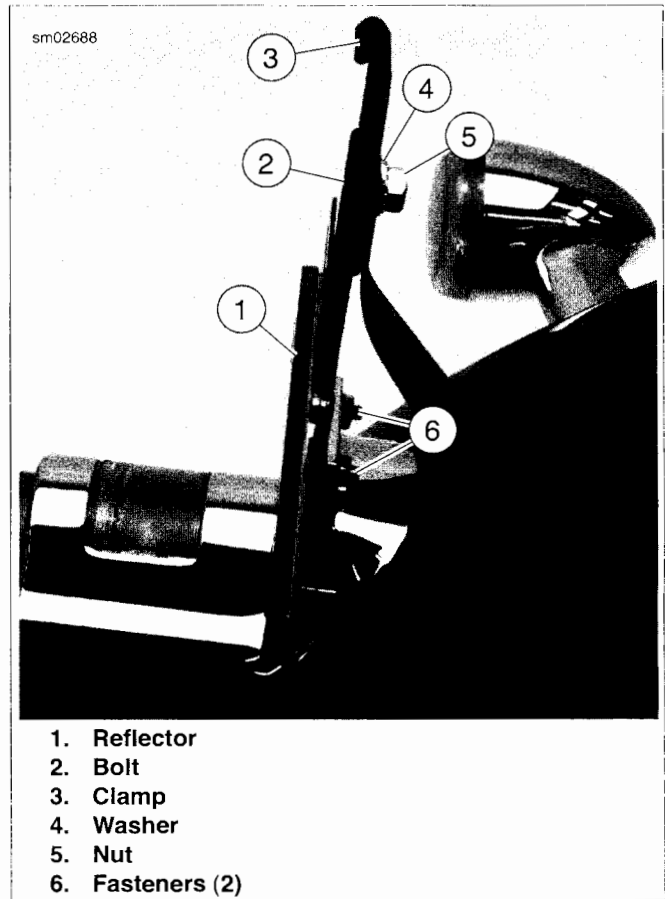

Figure 7-35. License Plate Bracket
2. See Figure 7-35. Remove reflector (1). Remove license plate bracket fasteners (6).
3. Remove bolt (2), washer (4) and nut (5) securing clamp to license plate bracket.
15. See Figure 7-35. Place license plate bracket in place on tail lamp. Install but do not tighten license plate bracket fasteners (6). Install clamp (3). Install bolt (2), washer (4) and nut (5).